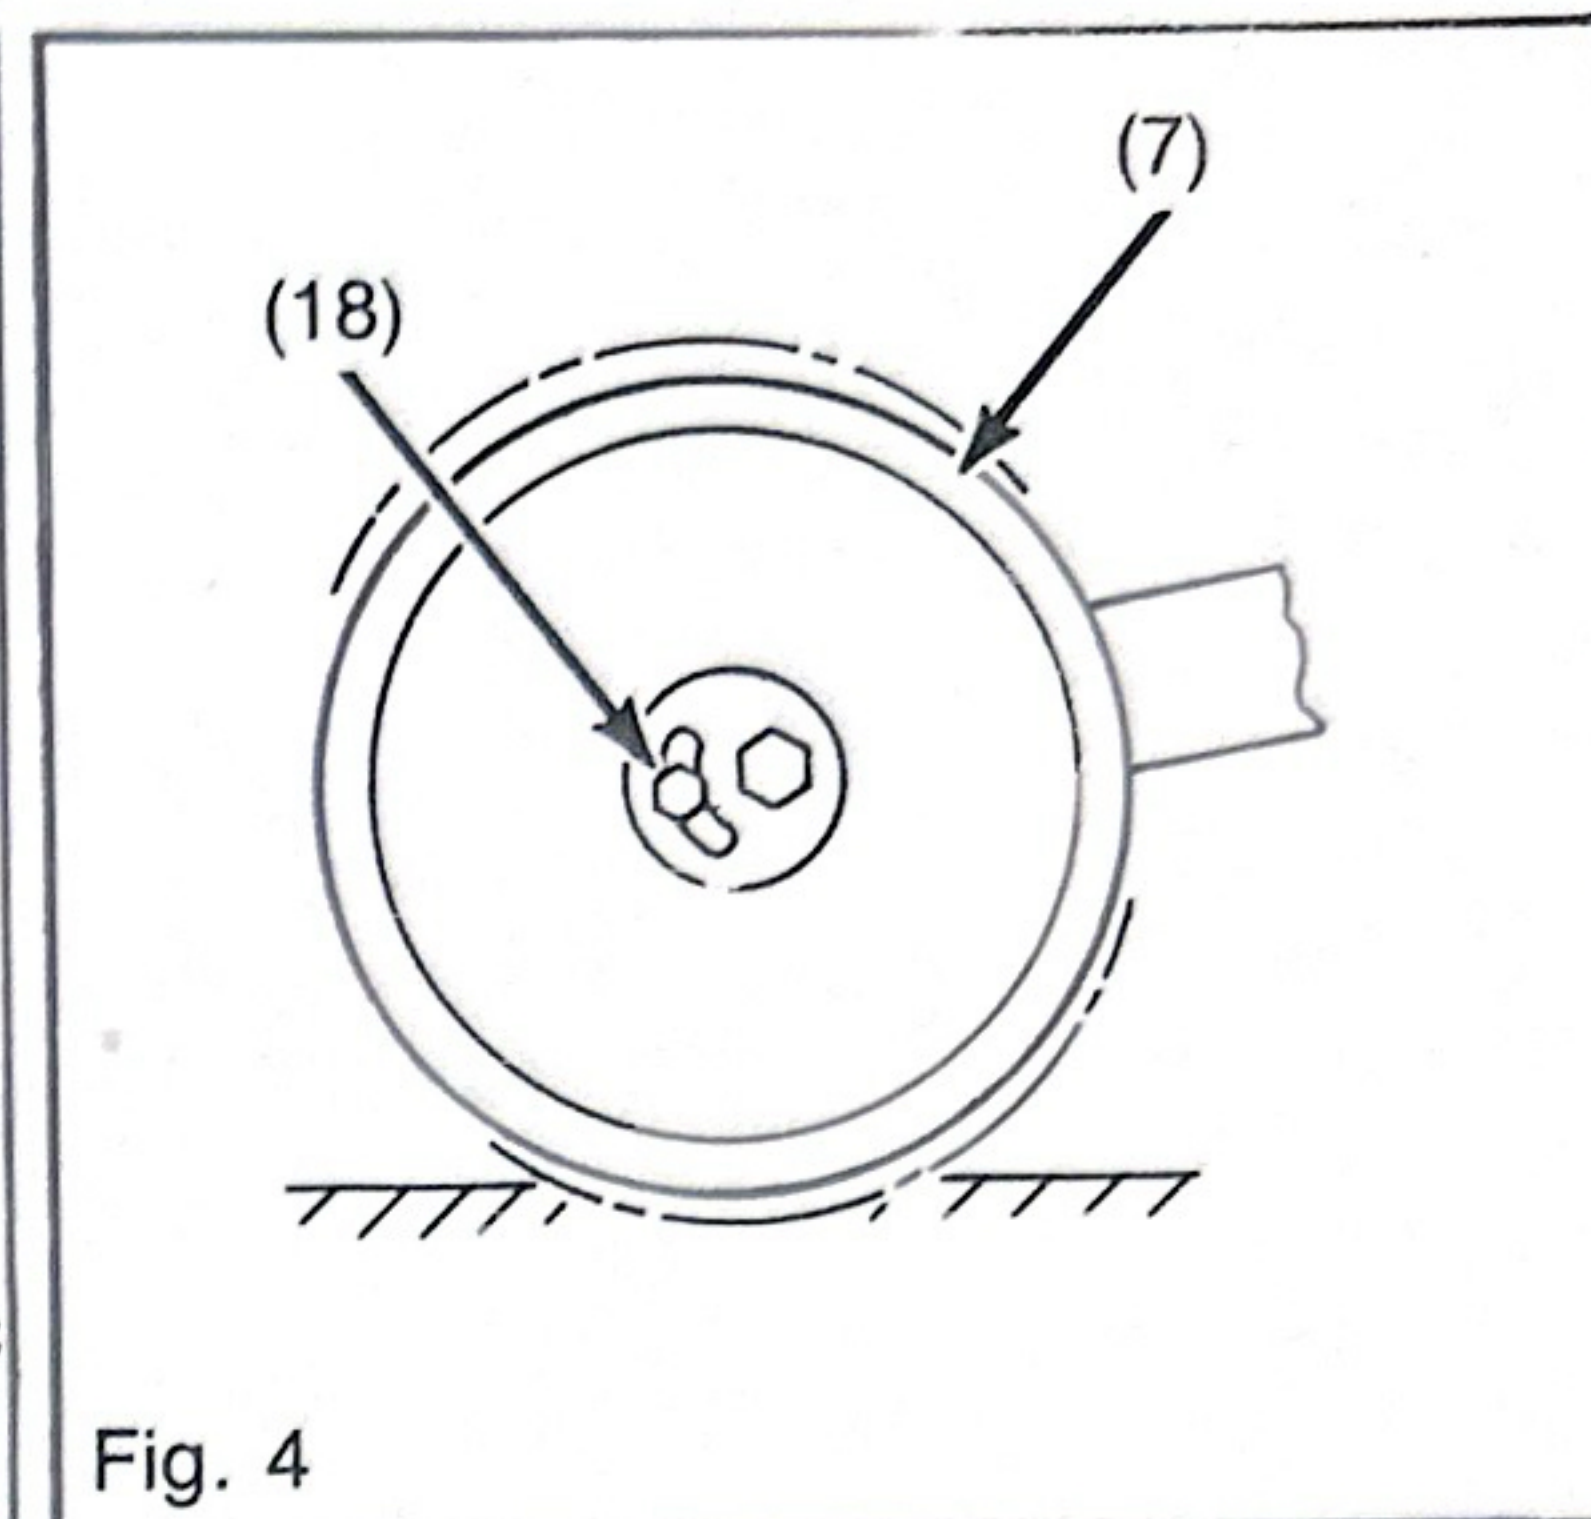

Fig. 4
3. To adjust for lighter or heavier thatching, relocate gage wheel (7), Figure 4, by loosening the 1/4-20 x 1-1/4" hex screw (18) and locknut. After loosening, rotate the wheel with slight pressure directed toward the wheel bearing as shown in Figure 4.